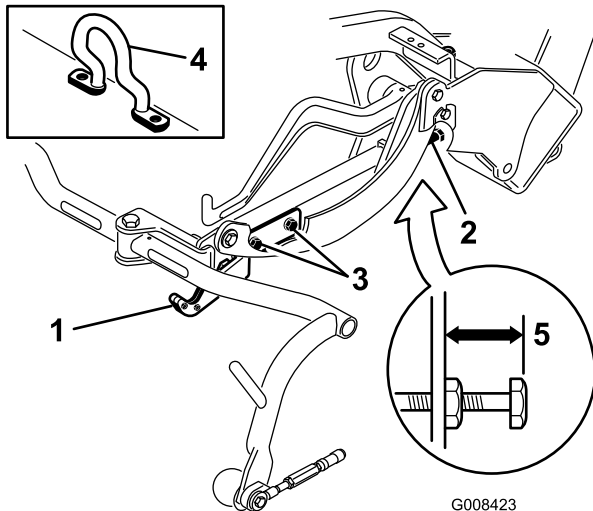
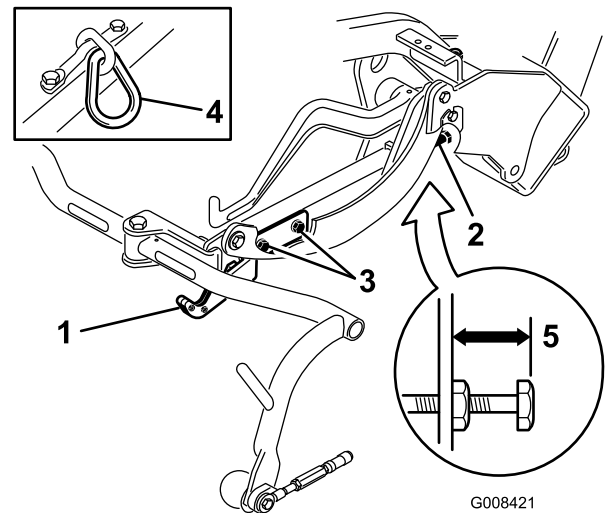
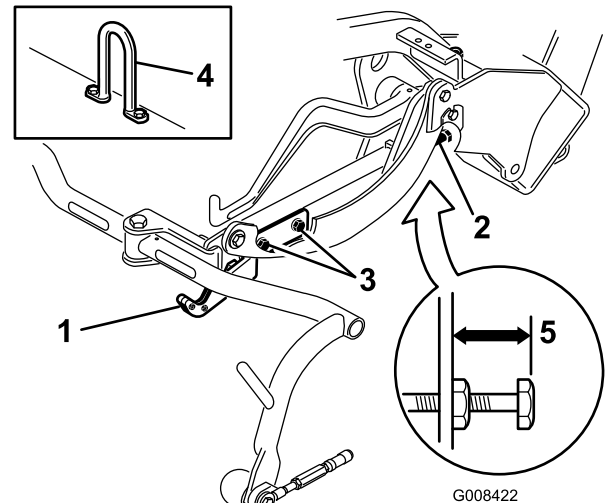

Figure 12
Figure 13
Figure 14
Check the transport height (Figure 13 and Figure 14) and adjust it, if required.
2. On cutting units equipped with a offset lift hook (Figure 12, inset) verify that the distance from the top of the carrier frame adjusting screw to the back of the carrier frame is 25 mm (1 inch). If the distance is not 25 mm (1 inch), proceed to step 4.
3. On cutting units equipped with a chain link or a straight lift hook (Figure 13 and Figure 14, insets) verify that the distance from the top of the carrier frame adjusting screw to the back of the carrier frame is 22 mm (7/8 inch). If the distance is not 22 mm (7/8 inch), proceed to step 4. If the cutting unit is equipped with an offset lift hook (Figure 12), proceed to the next step.
4. Loosen the transport plate mounting screws (Figure 13, Figure 14 and Figure 12).
(Figure 12, Figure 13, and Figure 14). Rotate the screw outward to raise and inward to lower. Tighten the jam nut after the proper height is obtained.